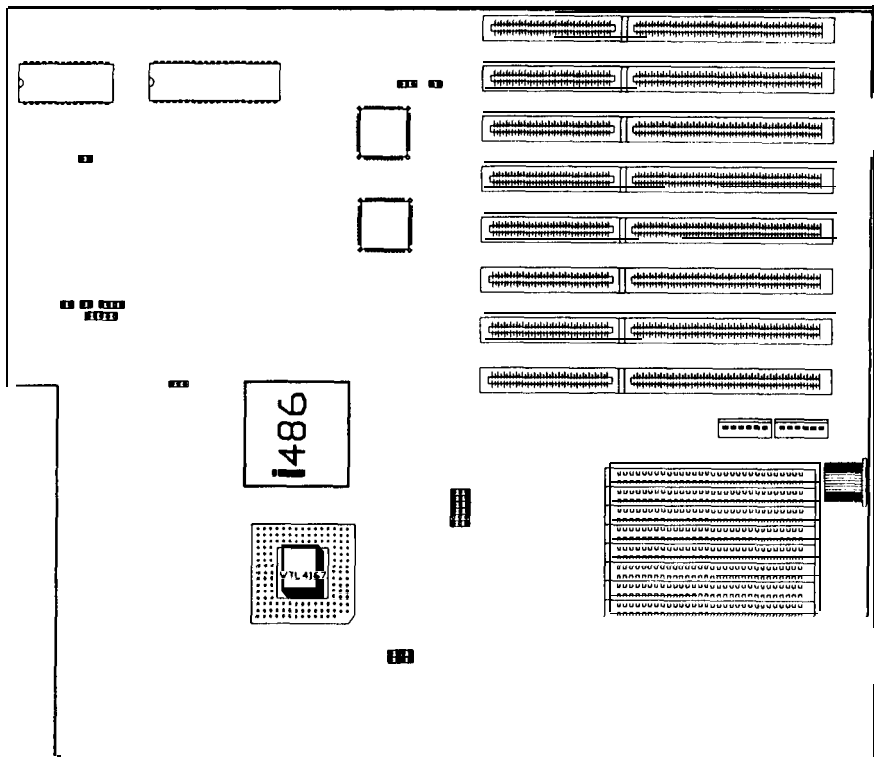
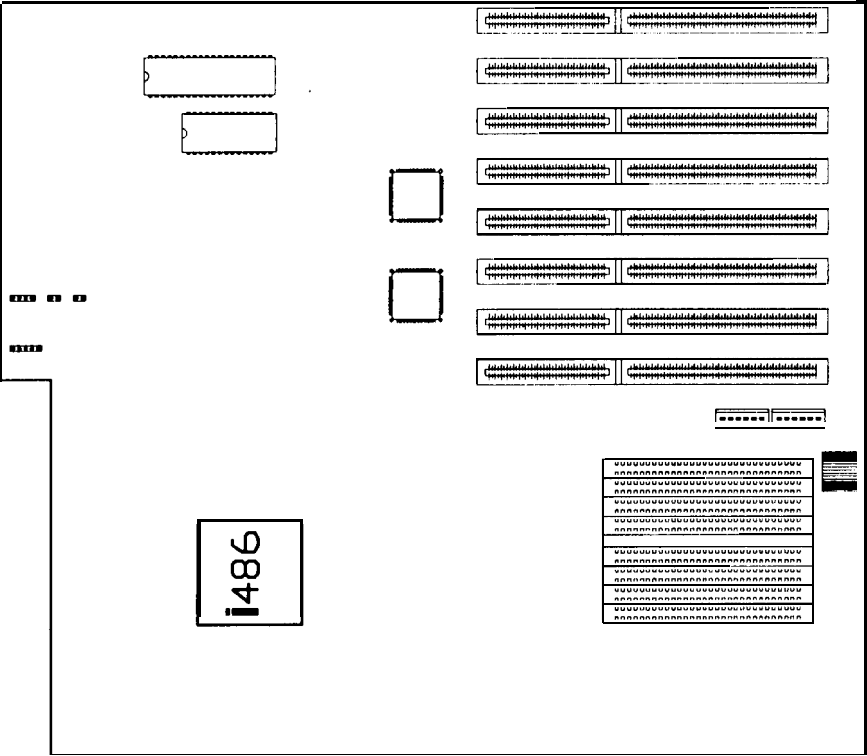

Figure 4-1. MAE488 system board layout
Figure 4-2. MBE486 system board layout
Figure 4-1 shows the layout of the MAE486 system board. Figure 4-2 shows the layout of the MBE486 system board.
- For the MAE486 — U7 (see Figure 4-1)
- For the MBE486 — U035 (see Figure 4-2)
- ▶ Locate socket **U80** where the chip will be installed (see Figure 4-1).
- On the MAE486 system board, these sockets are labeled U96 through **U103** (see Figure 4-1).
- On the MBE486 system board, these sockets are labeled **U110, U111, U070, U071, U120, U080, U121, and U081** (see Figure 4-2).
When installing the system board, verify that the system board fits the computer chassis by checking the alignment of the keyboard connector and the chassis access hole, as described below. Figure 4-1 shows the dimensions of the system board.